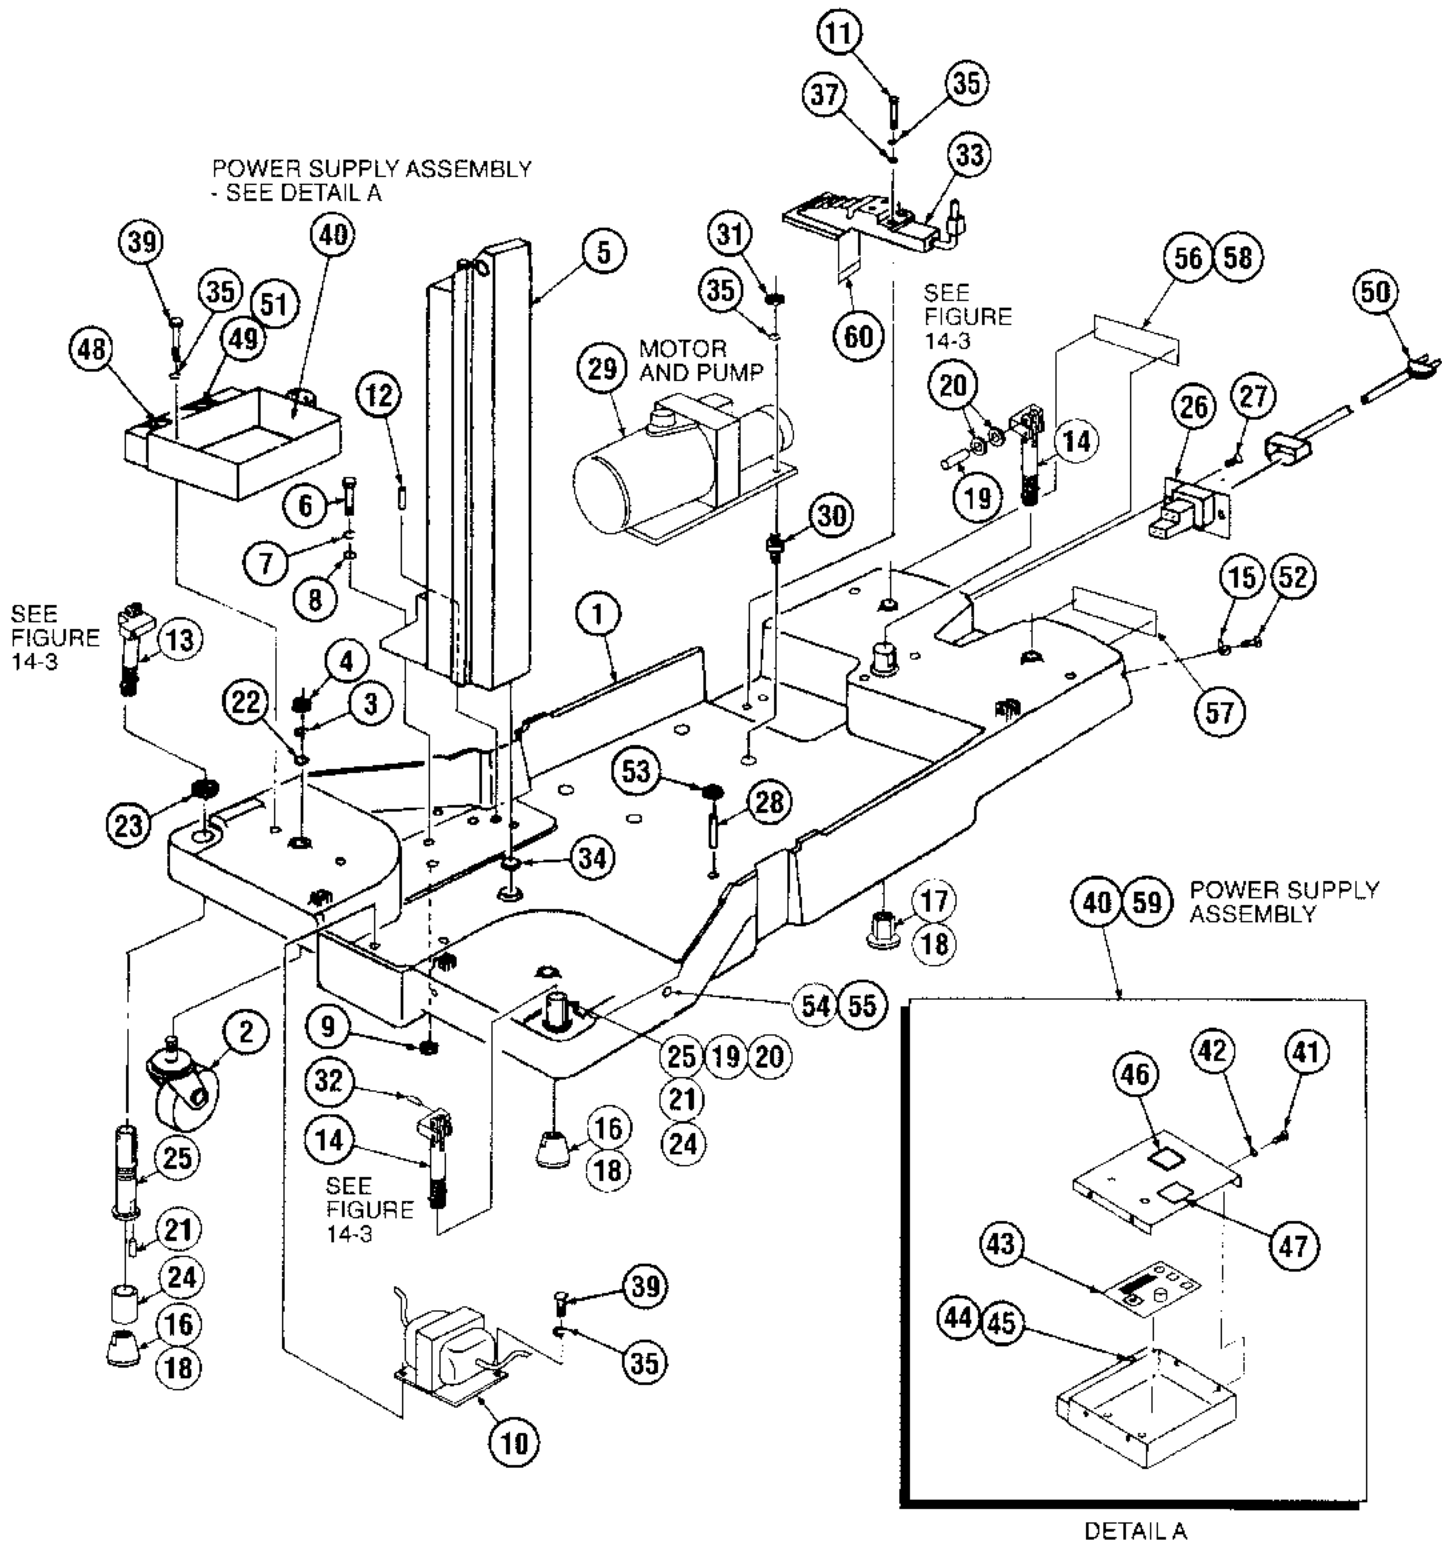

Figure 14-4. Table Base Assembly (Part 3 of 3)
* Item #'s 37 - 43 can be replaced as a complete assembly by ordering P-93908-634 (left-hand shaft and link assembly) or P-93908-635 (right-hand shaft and link assembly). See Figure 14-4, items 13 and 14 for a pictorial.